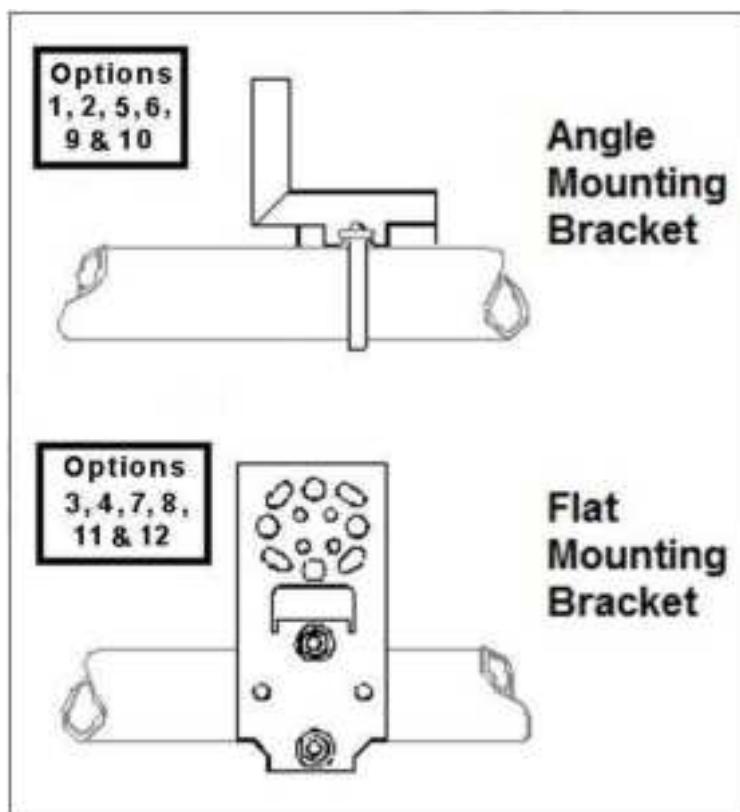

Figure 67 – ST 700 Basic Transmitter - Angle and Flat Bracket Parts
16. Use a torque wrench to gradually tighten nuts to torque rating in sequence shown in Figure 67. Tighten head bolts in stages of 1/3 full torque, 2/3 full torque, and then full torque as per Table 46.